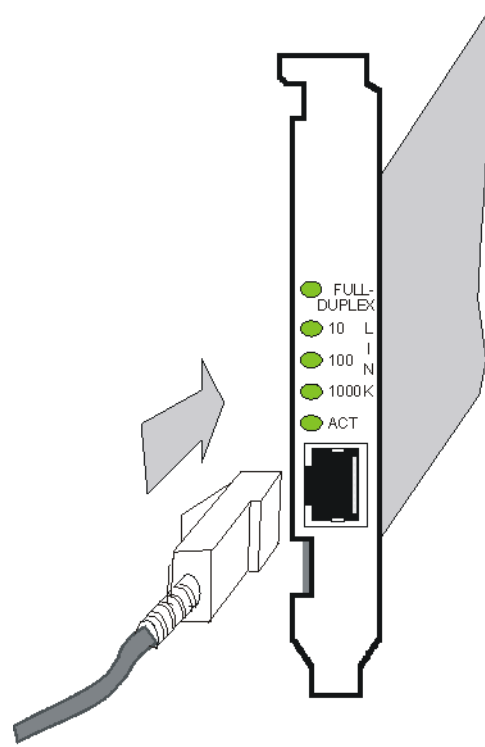

Figure 2. Connection of the RJ-45 cable / plug
4. At the other end of the cable connect the connector to the port on the network adapter (see figure 2).